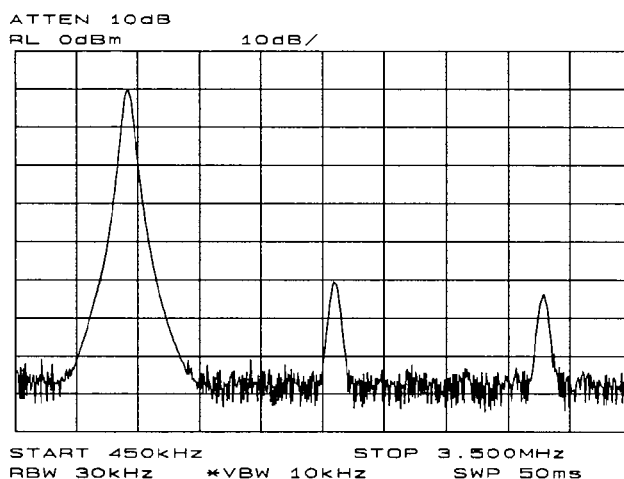

Figure 3-1. Input Signal and Harmonics
1. For measuring the 1 MHz fundamental and its first two harmonics, set the start frequency to 450 kHz and the stop frequency to 3.5 MHz. This displays the fundamental frequency and the second and third harmonics as shown in Figure 3-1. To improve visibility, smooth the noise by pressing **BW** and then **VIDEO BW AUTO MAN** until **MAN** is selected. Now use the step down **▼** key as desired.